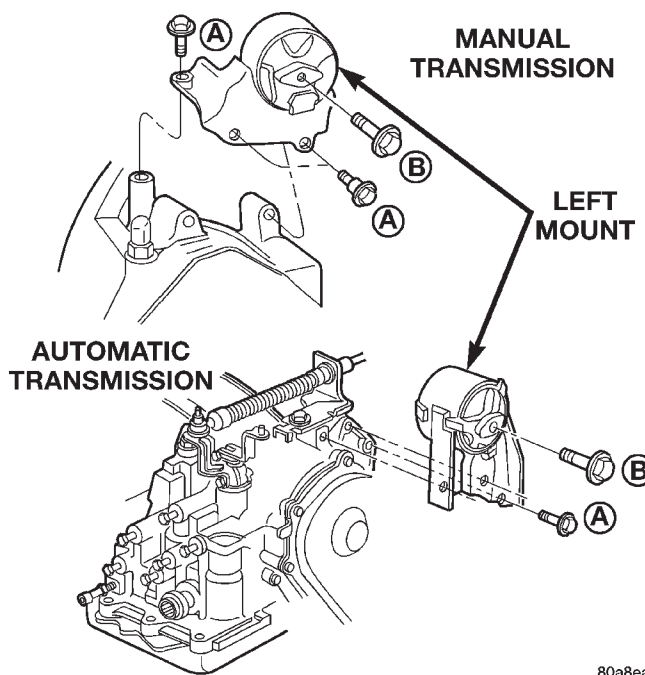

Fig. 11 Engine Mounting—Left
- (1) Raise vehicle on hoist and remove left front wheel.
- (2) Remove the Power Distribution Center (PDC) on manual transaxle model, from battery tray mount and lay aside.
- (3) Support the transmission with a transmission jack.
(4) Remove the thru-bolt access hole cover. Remove the insulator thru-bolt from the mount (Fig. 11).
(5) Remove the transmission mount fasteners and remove mount.
(6) Reverse removal procedure for installation. Tighten fasteners in this order (Fig. 11):